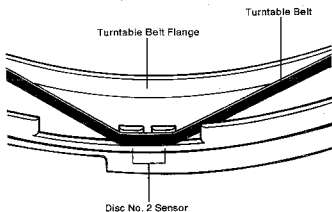

Figure 3
- Make sure that the turntable drive belt lies flat in the center of the Turntable Belt Flange, and is not twisted (Figure 3).